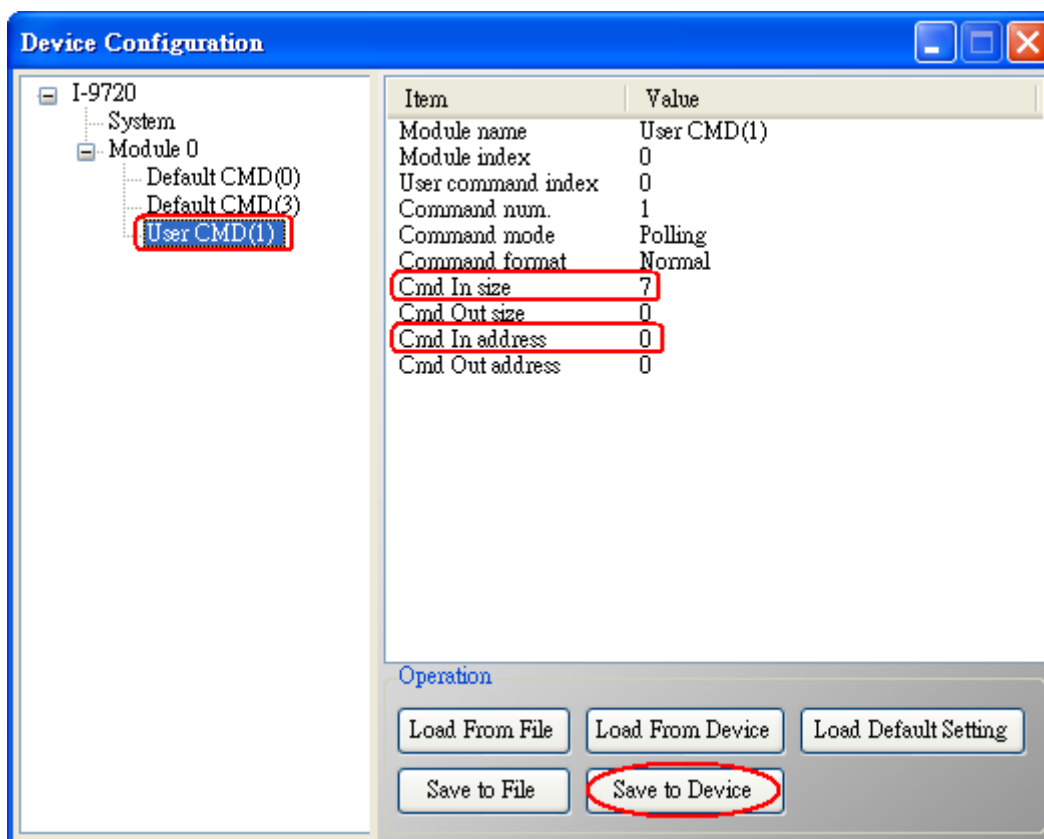

Figure 5-1 : Add “User CMD(1)” of HART device to HRT-710
- (1) By using “HG_Tool” to add “User CMD(1)” of HART device and save settings to I-9720. The Modbus start address and length of the “User CMD(1)” will show in the “Cmd In address” and “Cmd In size” field like Figure 5-1. In the example they are 0 and 7 (byte count=7 => word count=4).